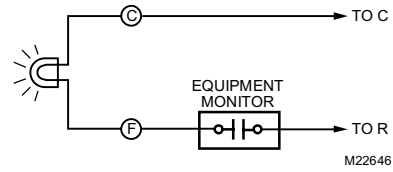

Fig. 15. F terminal switch to R (power) side of system transformer.
- When the F terminal is wired to an equipment monitor, the LED signals when a check or fail signal is sent to the comfort control from the system. See Fig. 15. (This can occur only when the comfort control is not in Em. Ht. mode.)